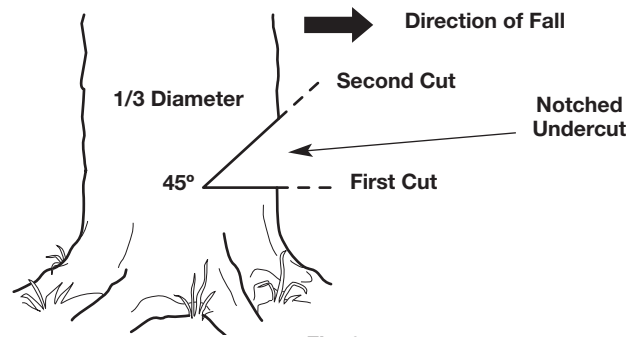

Fig. 24
1. Make a horizontal cut into the trunk of the tree (Fig. 24). The cut should be about 1/3 the diameter of the tree and close to the ground. To prevent the guide bar from being pinched by the weight of the wood, always make this cut first.
2. Make a 45° cut into the trunk of the tree, above the first cut (Fig. 24). Continue cutting until the two cuts meet.